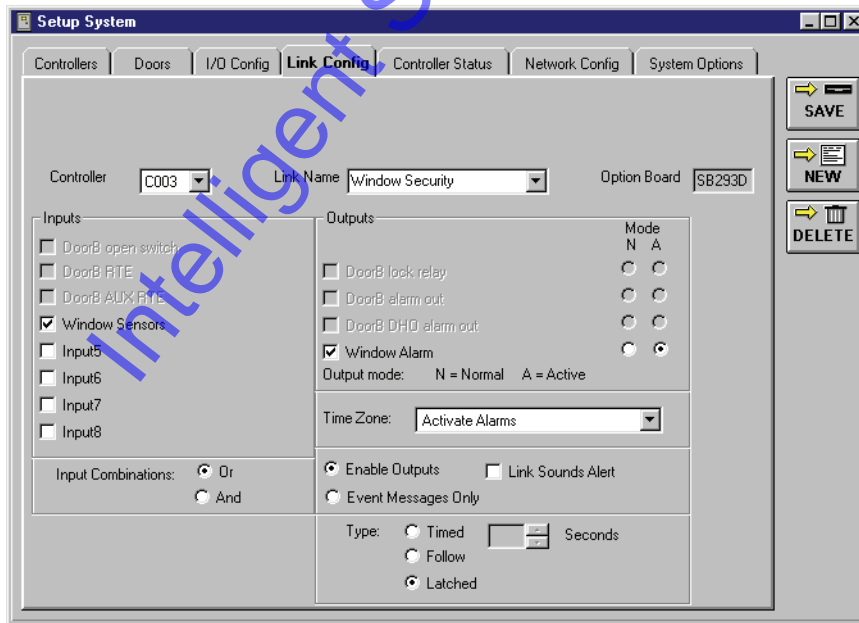

Figure 6-40: The Completed Window Alarms I/O Link
10. The completed I/O Link should appear similar to Figure 6-40.